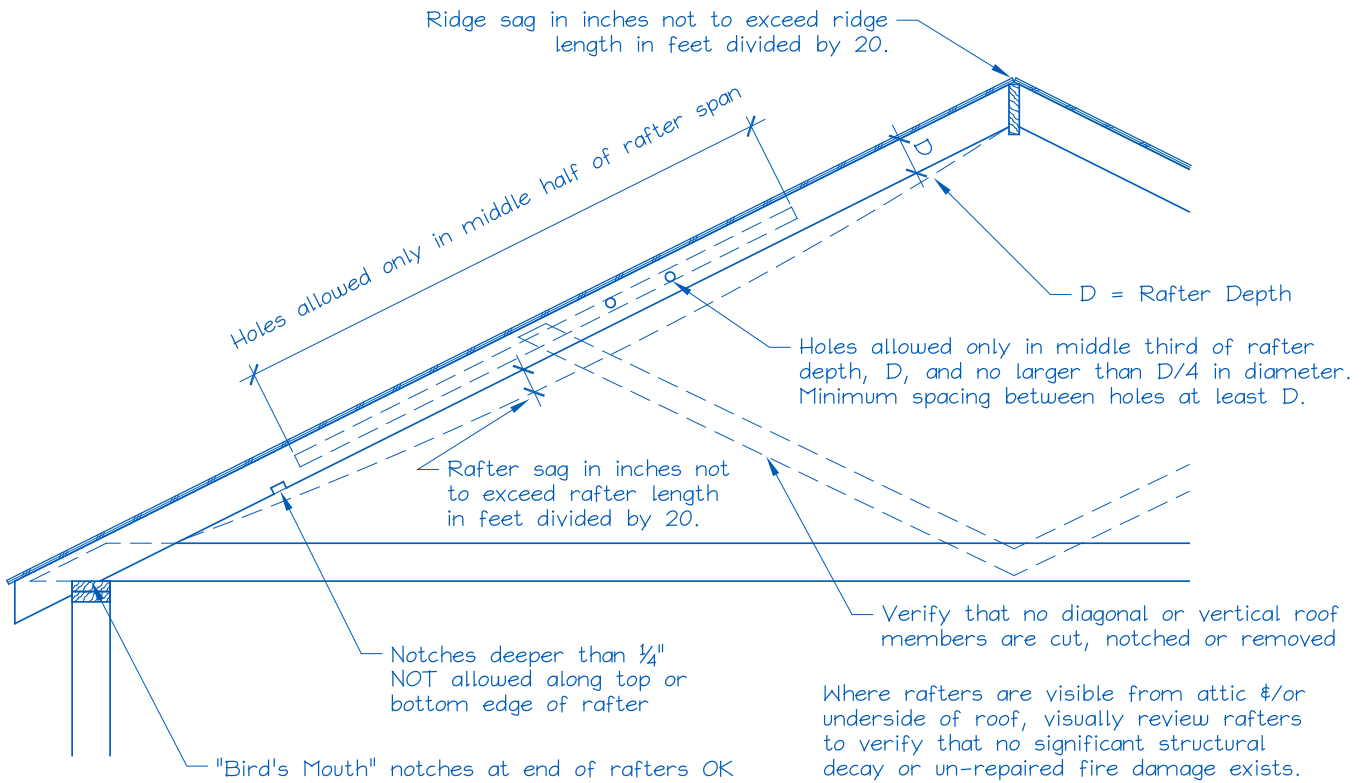

Figure 1. Roof Visual Structural Review (Contractor's Site Audit) of Existing Conditions.
- 2) Does the roof structure appear structurally sound, without signs of alterations or significant structural deterioration or sagging, as illustrated in **Figure 1**? Y N